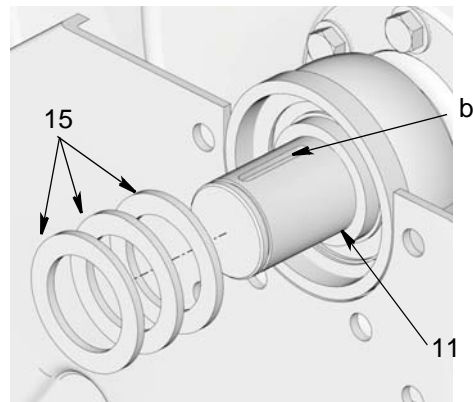

FIG. 42
- Rotate shaft (11) so the key-way (b) faces up. Install three spacers (15) over shaft (FIG. 42).